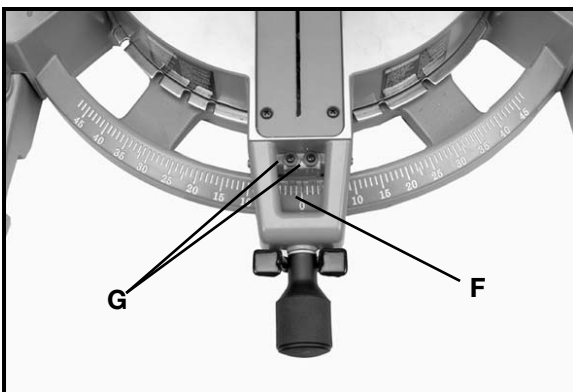

Fig. 16
5. When the fence is 90 degrees to the blade, adjust the cursor (F) Fig. 16, so the pointer is aligned with the 0 degree mark on the scale by loosening two screws, (G), adjusting cursor (F) and tightening screws (G).